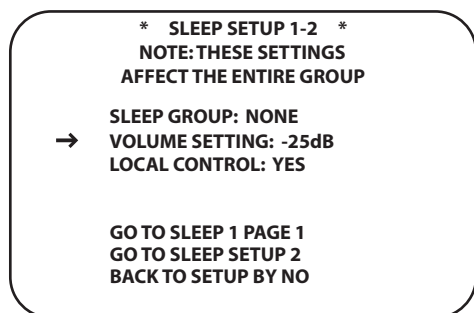

Figure 76.
3. To continue Setup, press the ▲/▼ **Navigation Button 16** to position the cursor next to GO TO SLEEP 1 PAGE 2. Press the **Set Button 18**. The SLEEP SETUP 1-2 screen will appear (**Figure 76**).